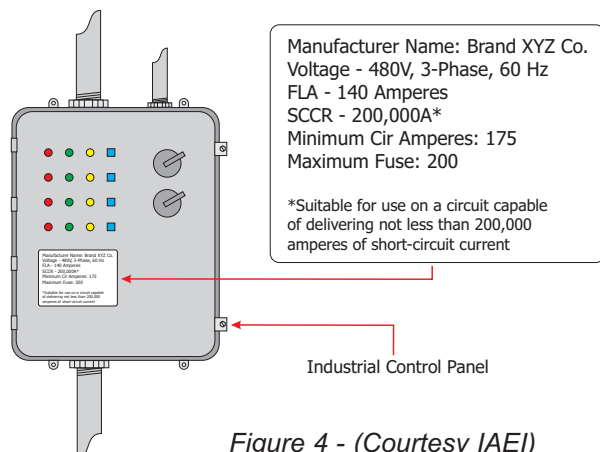

Figure 4 - (Courtesy IAEI)
- Assure the component or equipment marked short-circuit current rating is equal to or greater than the available fault current. (See Figure 4 for example).